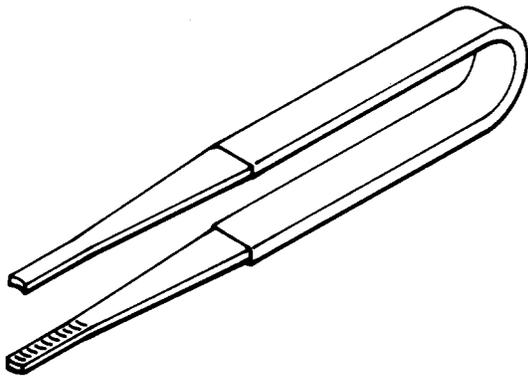

Fig. 3—Pin and Socket Insertion Tool
- 1—Part No. 91002-1, Pin and Socket Insertion Tool (Fig. 3)\*
- 1—Part No. 91002-1, Pin and Socket Insertion Tool (Fig. 3)†